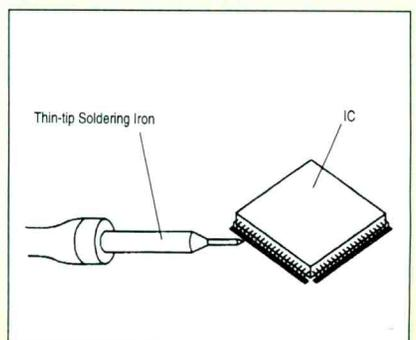

Figure 8.
4. If it appears that there is not enough solder on any of the lead/land solder connections, resolder using a thin tip soldering (Figure 8).